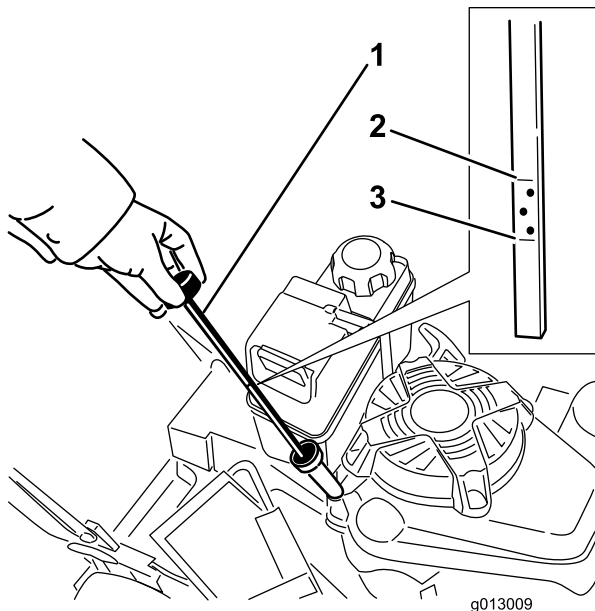

Figure 24
6. Remove the dipstick (Figure 24) by rotating the cap counterclockwise and pulling it out.
12. Read the oil level on the dipstick (Figure 24).